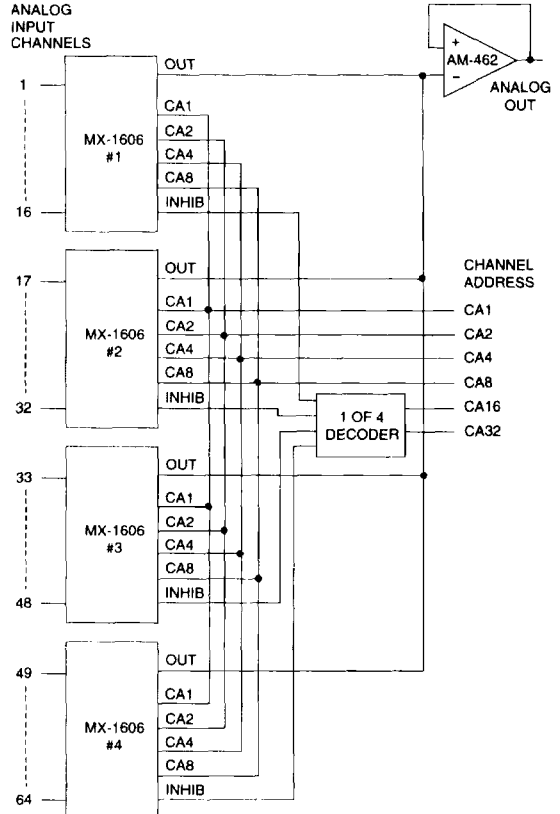

Figure 2. Expansion to 64 Channels
3. Channel expansion is accomplished using the inhibit input of the multiplexer. A logic "0" on this input disables the multiplexer. The expansion technique shown in Figure 2 applies to all of the multiplexer models.